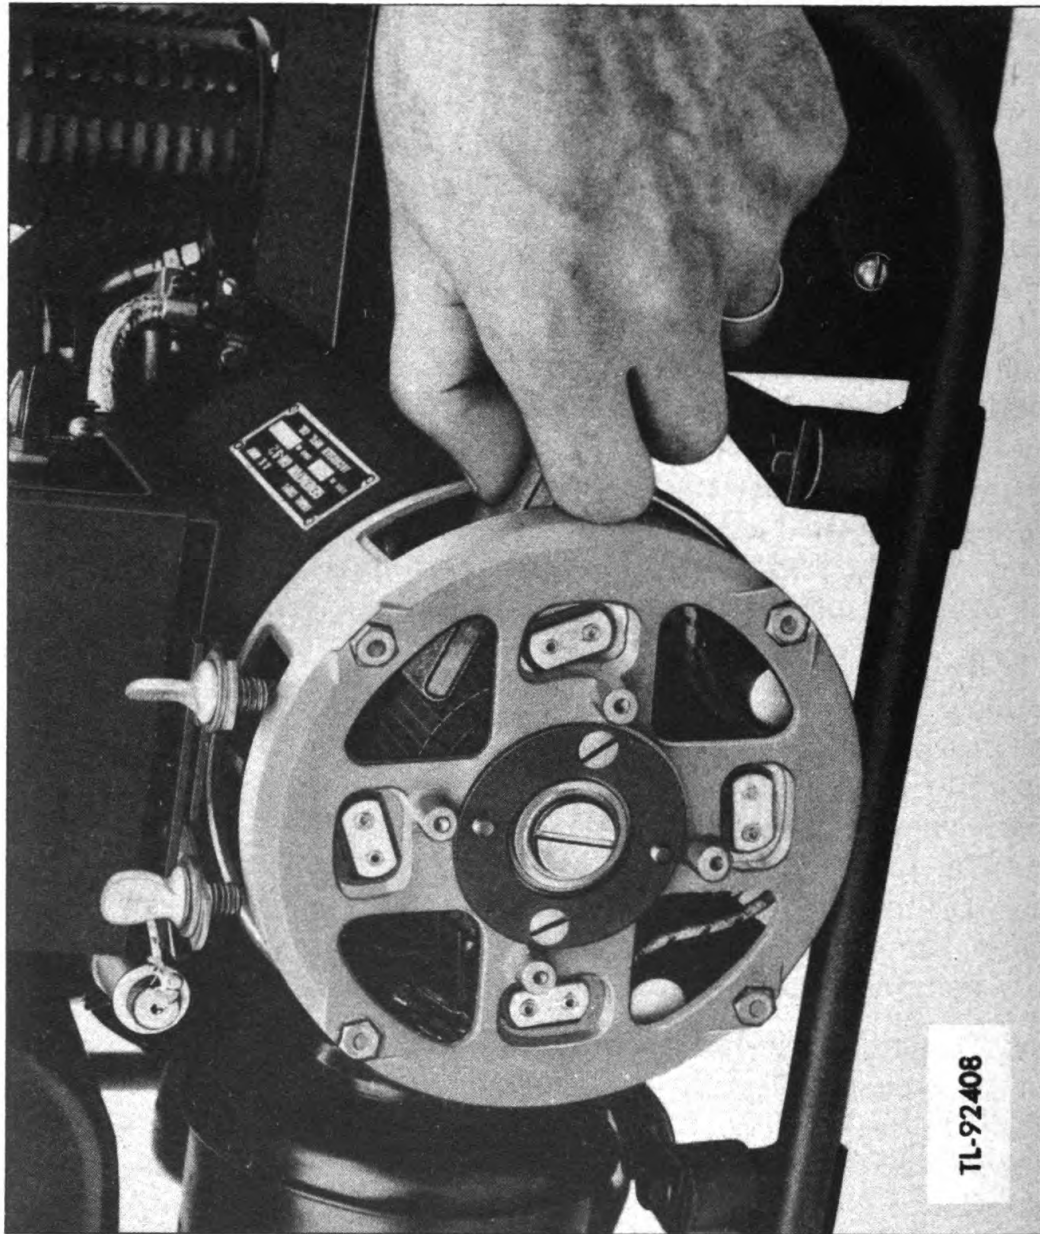

Figure 18. Dressing commutator
**a. To Clean Commutator.** Access to the commutator is possible by removing the four screws which hold the end cover in place, then removing the cover. To clean the commutator (fig. 18), use a piece of wood or other flat nonmetallic object, about the same width ( $\frac{1}{2}$  inch) as the #00 sandpaper furnished with the equipment. With the armature rotating, place the strip of sandpaper on the object in use and hold it on the commutator exactly as shown in figure 18. Stop the unit and, with a small brush or pointed stick, remove dust or carbon from between the bars of the commutator.